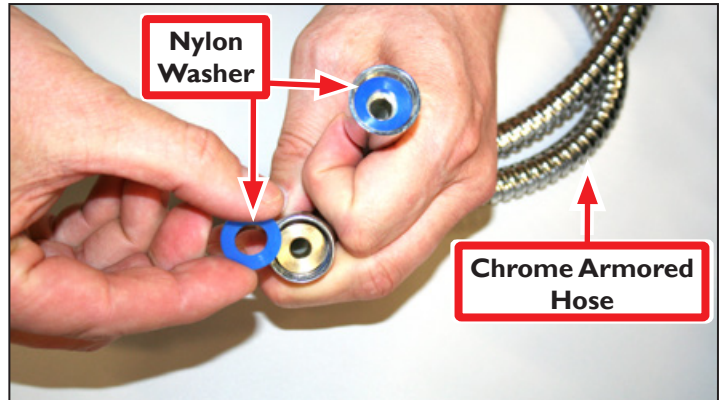

Figure 9
3. Insert *Nylon Washer* into both ends of *Chrome Armored Hose* (see **Figure 9**).